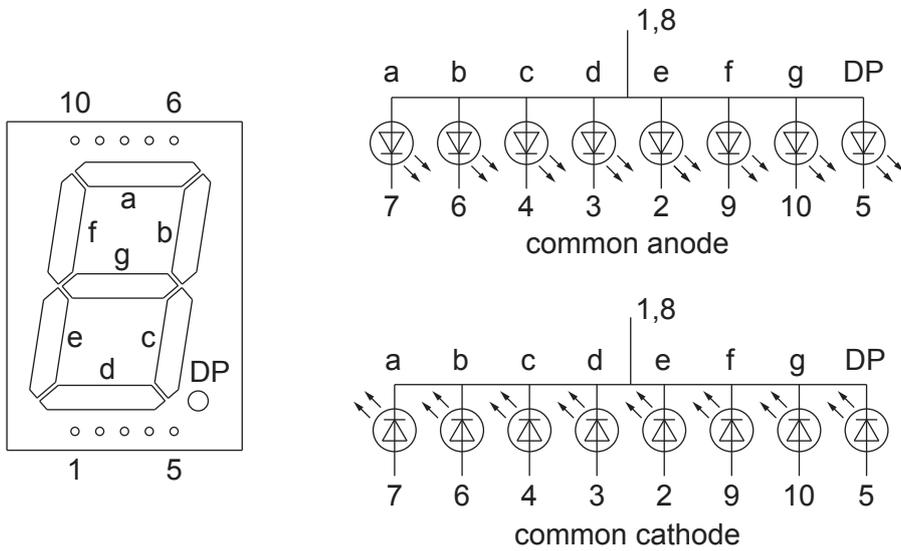

Fig. 12.3
- (b) Fig. 12.3 shows details of a seven segment display taken from a catalogue.
- (i) Shade the segments on Fig. 12.3 that will be lit to display the number '2'. [1]